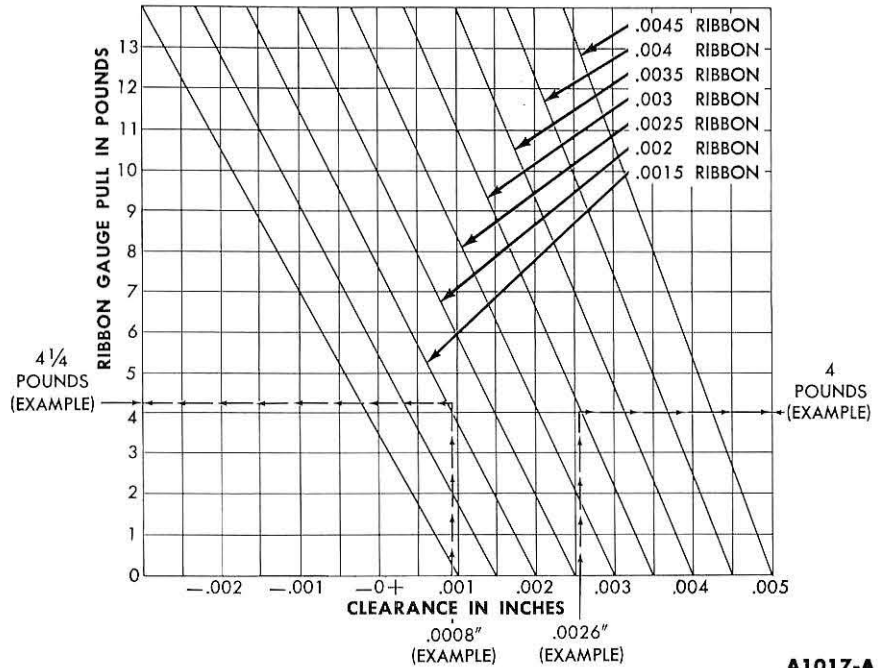

FIG. 40—Piston Clearance Chart
Calculate the size piston to be used. Then check (Fig. 40)
4. Attach a tension scale to the end of a feeler gauge ribbon that is free of dents or burrs. The feeler ribbon should be 1/2-inch wide and of one of the recommended thicknesses listed in Fig. 40.
In Fig. 40, the diagonal lines represent feeler ribbons of various thicknesses, the horizontal lines represent the pounds pull, and the vertical lines represent the clearances. To determine the clearance, locate the line representing the pounds pull required to remove the feeler ribbon from the cylinder bore. Follow the horizontal line to the right until it intersects the diagonal line representing the feeler ribbon. Read down the vertical line for the clearance.
Example 1. If a 0.0015-inch feeler ribbon is used and it takes approximately 4 1/4 pounds pull to remove the feeler ribbon, the clearance is approximately 0.0008 inch. This is determined by locating the pounds pull (4 1/4) in Fig. 40 and following the line to the right until it intersects with the diagonal line representing the 0.0015-inch feeler ribbon. Read down the vertical line for the clearance (approximately 0.0008 inch).